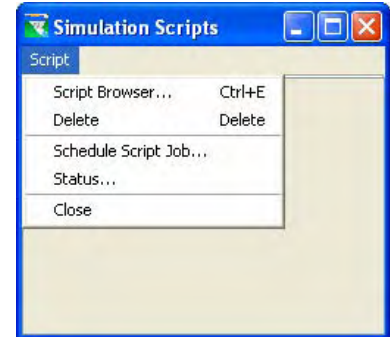

Figure 14.75 Script Menu
3. From the **Tools** menu in the Simulation module, select **Scripts...**. From the **Script** menu in the **Simulation Scripts** window, you can choose from the following options (as shown in Figure 14.75):